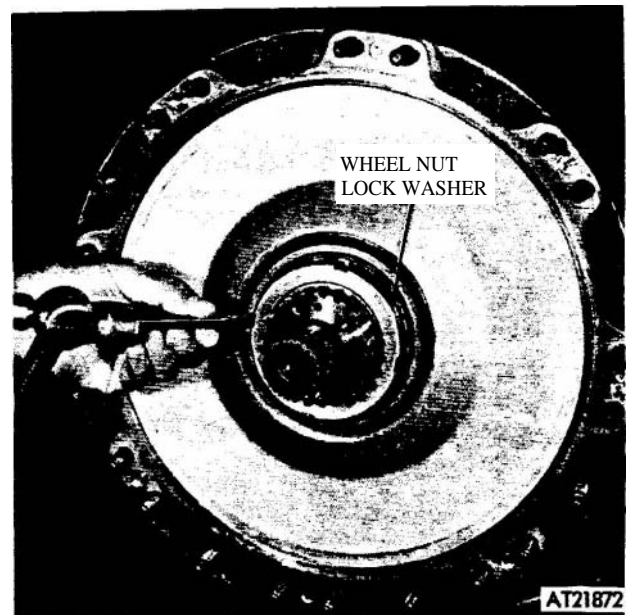
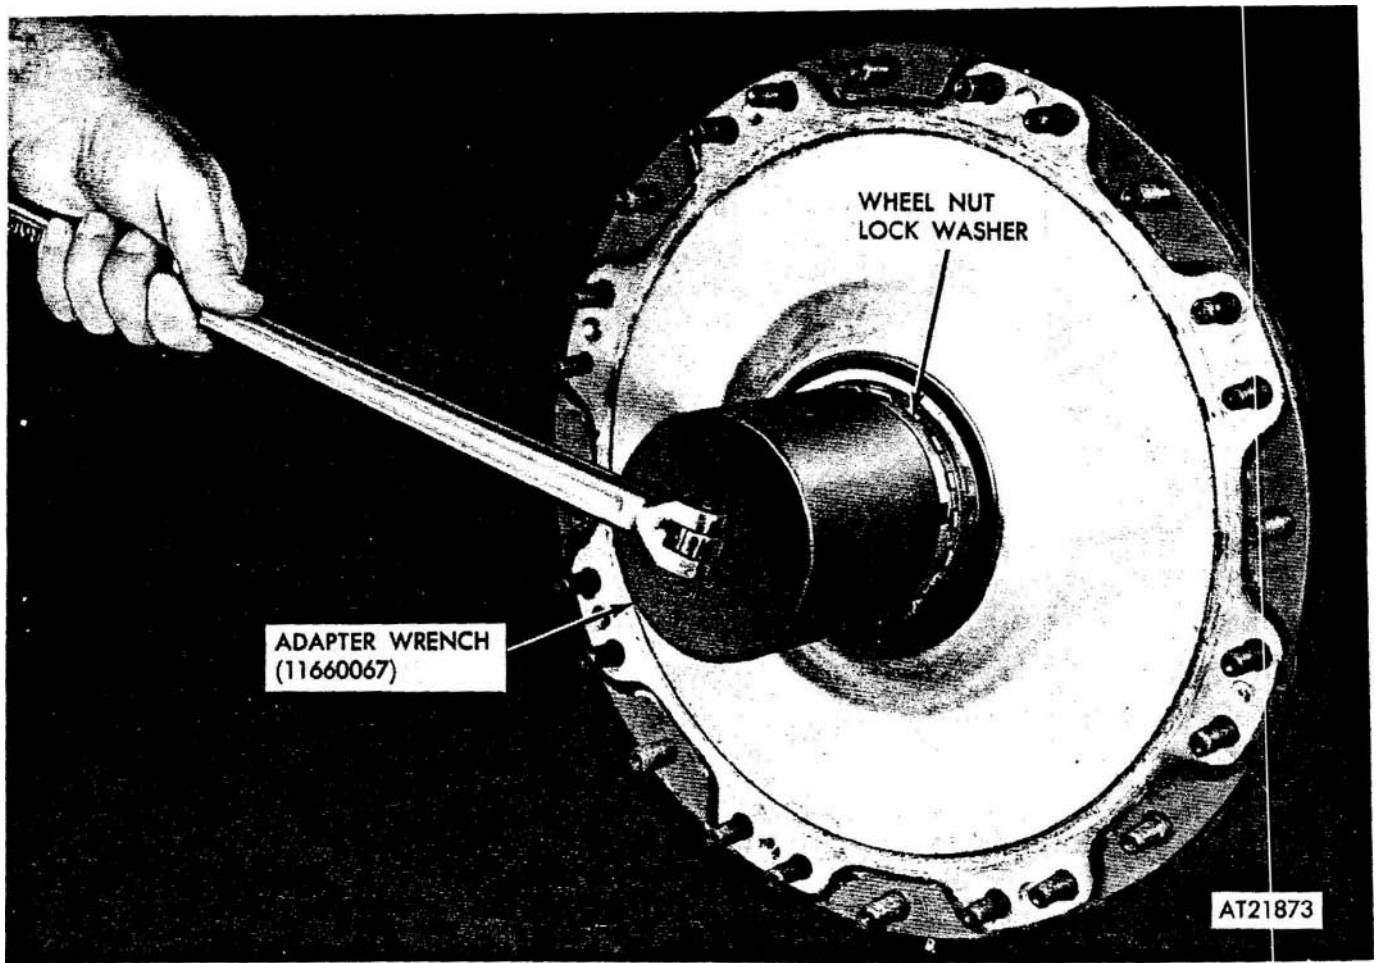

Figure 2-219. Bend tab on wheel nut lock washer.
Figure 2-220. Wheel nut **removal**.
(14) Bend back tab on wheel nut lock washer (fig 2-219). Install wheel nut adapter wrench (11660067) and remove wheel nut and lock washer (fig 2-220).
(15) Install lock washer and wheel nut (fig 2-220)) and tighten using adapter wrench (11660067). Torque wheel nut to 80-100 lbs-ft. to seat bearing (fig 2-246) then loosen nut two tabs and bend tab into nut groove.